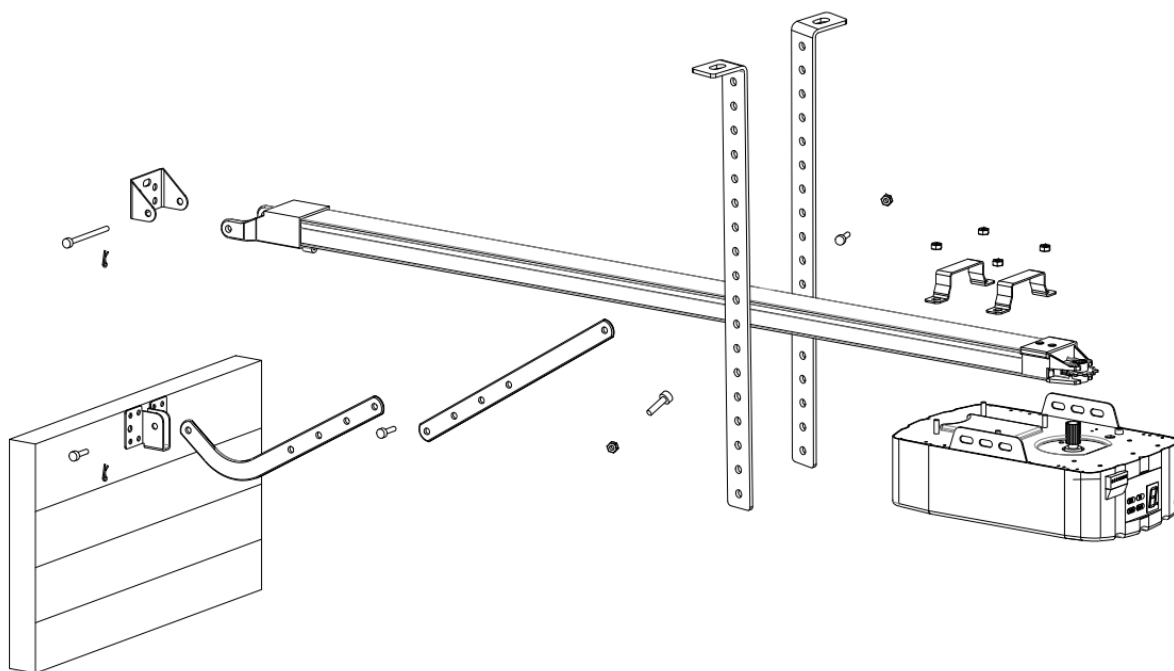

Figure 11
STEP3 (Fig.11)
STEP4 (Fig.11)
STEP5 (Fig.11)
STEP6 (Fig.11)